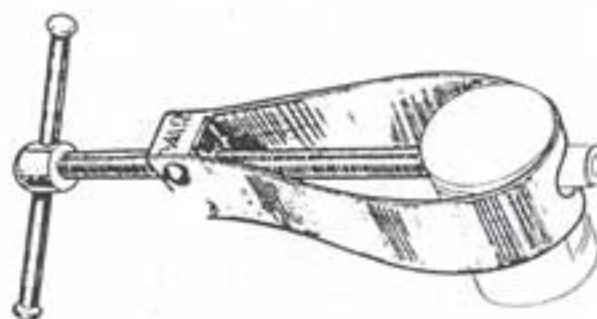

Fig. 3
- Drive out the piston pin using the pin extractor tool, 100025, (fig. 3).